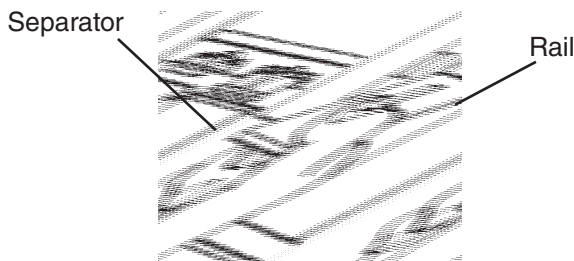

Fig. 46
16) Hook each separator onto the rail, then pull it hard towards you until it locks into place. See Fig. 46.